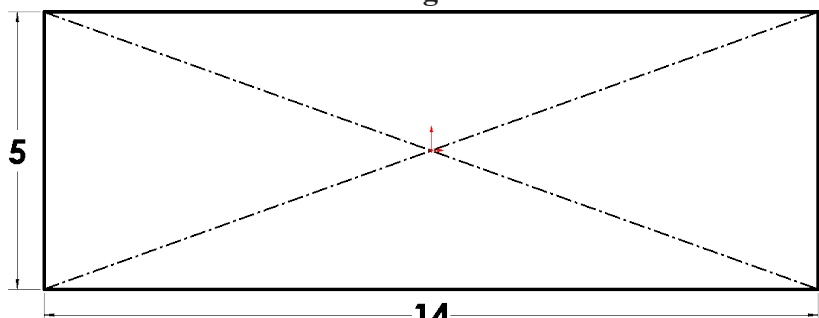

Fig. 3
Step 5. Click **Smart Dimension**  (S) on the Sketch toolbar.
Step 6. Dimension **5** by **14**, **Fig. 3**.